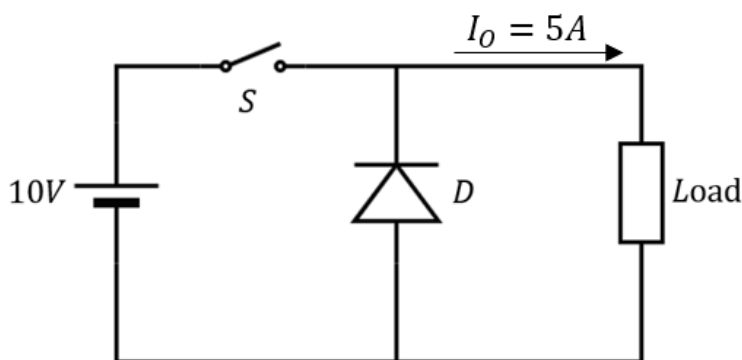

Figure 1A
- 1A.** In the DC-DC converter shown in the figure 1A, a fast recovery diode **D** has a lead inductance of $1\mu\text{H}$ and a reverse recovery charge of $10\mu\text{C}$ at a forward current $i_F = 5\text{A}$. The switch **S** is switched at frequency f_s . Analyse the circuit and determine the following parameters of the diode with the sketch of reverse recovery characteristics.